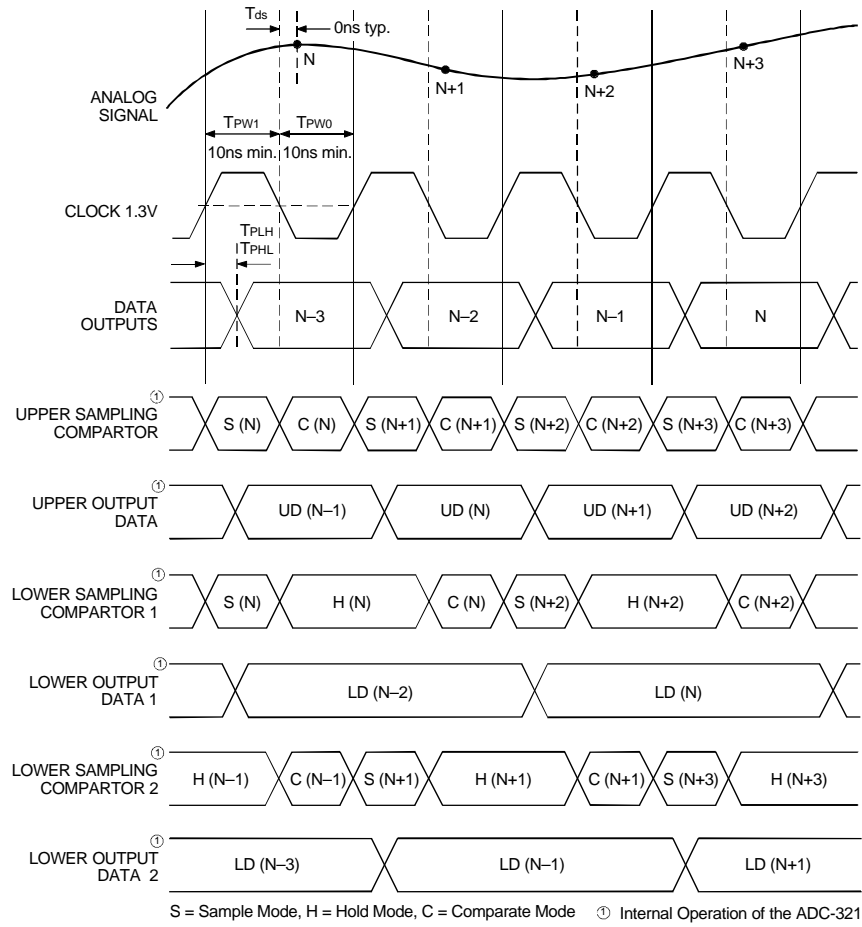

Figure 2-3. ADC-321 Timing Diagram
3. The operation of the respective parts is as indicated in Figure 2-3. For instance, input voltage N is sampled with the falling edge of the first clock by means of the upper